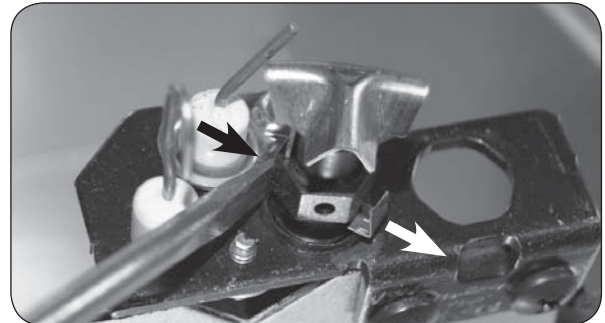

Fig. 4-3 Adjust orifice lever
2. Using a flathead screwdriver, push the pilot orifice lever (located at base of pilot head) completely to the opposite side (see Fig. 4-3).